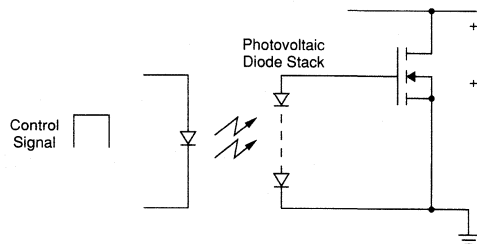

Figure 5. Photovoltaic Drive Scheme
- Solid-state relays utilize optically-isolated drive schemes for isolation purposes. Figure 5 shows a commonly-used photovoltaic drive scheme. Usually a low voltage is available to turn on the FET to meet the relay's assured $R_{DS(ON)}$ specifications. Precautions are taken to avoid excessive drive since the charge applied during turn-on must be quickly discharged during turn-off. Turn-off circuitry is not shown in this simplified schematic.